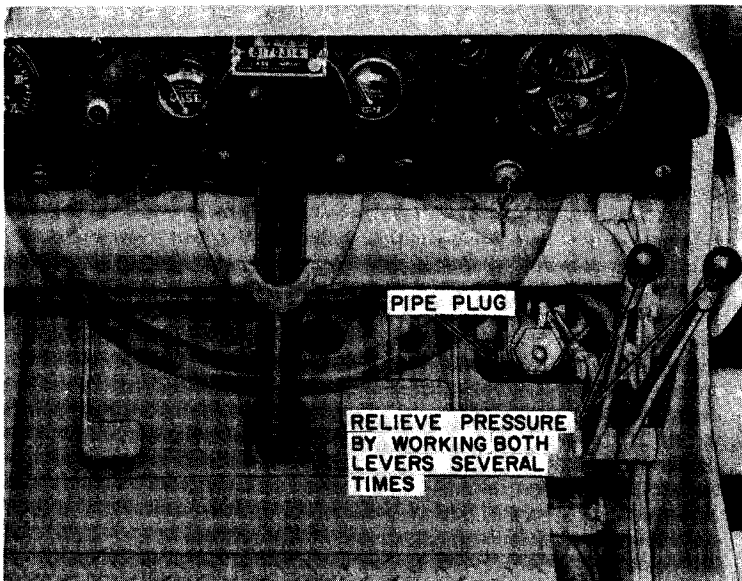

Figure 94
2. Shut off the engine and relieve hydraulic pressure in the lines, by working both control levers back and forth several times, Figure 94.
11. Remove the Pressure Gauge and reinstall the small pipe plug. Refer to Figures 94 and 95.